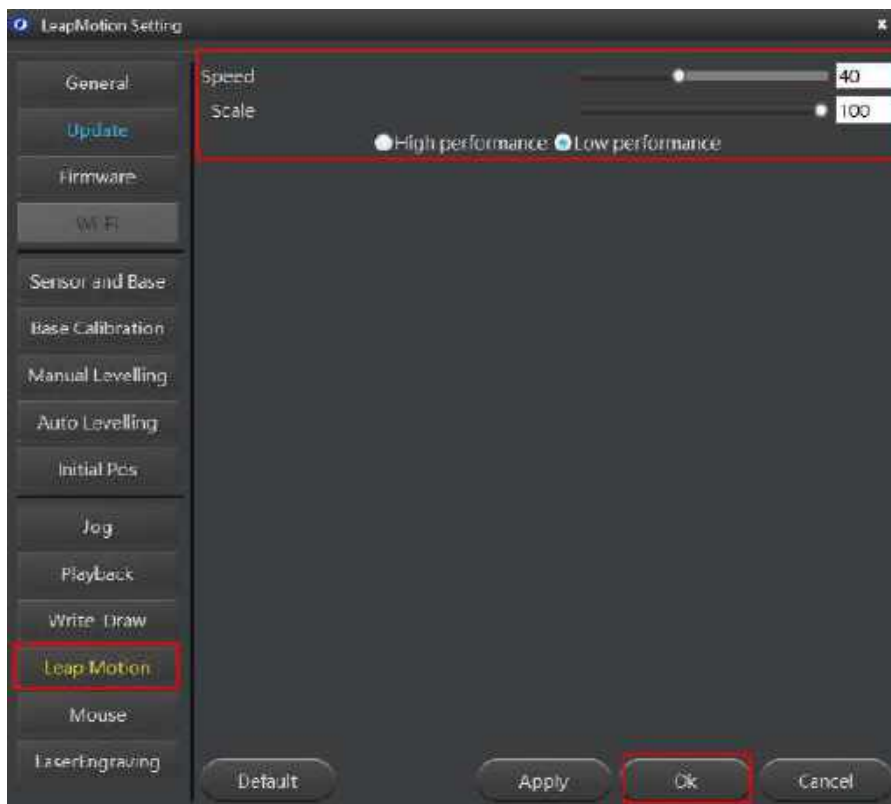

Figure 5.98 Set the parameters of the Leap Motion function
Step 4 Click **Leap Motion**, as shown in Figure 5.98. Set the parameters, as shown in Table 5.12, and click **OK**.